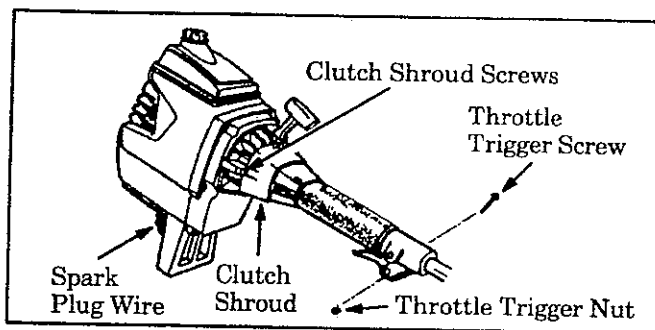

Figure 31
1. Disconnect spark plug wire. Figure 31.
2. Remove the screw and nut from the throttle trigger housing. Figure 31.
5. Remove the four clutch shroud screws with the small hex wrench provided. Figure 31.
6. Separate clutch shroud from engine. Figure 31.